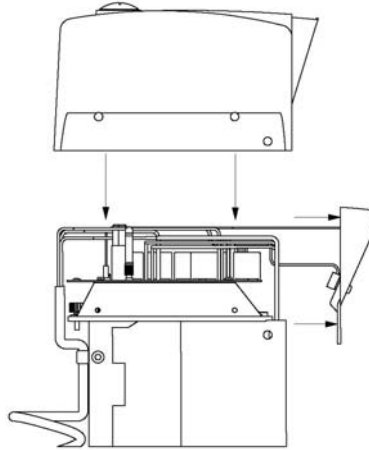

Fig. 1.12
5. Hold the LED/Pushbutton cover in its appropriate position with one hand, and with your other hand, carefully place the PCB cover into its appropriate position. Be careful not to strain the wiring harnesses. Refer to Fig. 1.12.
13. Hold the LED/Pushbutton cover in its appropriate position with one hand, and with your other hand, carefully place the PCB cover into its appropriate position. Be careful not to strain the wiring harnesses. Refer to Fig. 1.12.